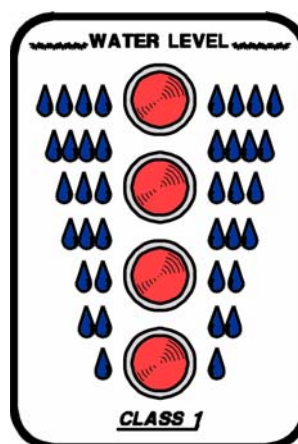

Figure 2-2: Intelli-Tank 4-Light Indicator
Four (4) illuminating lights (RED) indicate the water level in the tank. (See Figure 2-2: “Intelli-Tank 4-Light Indicator.”)